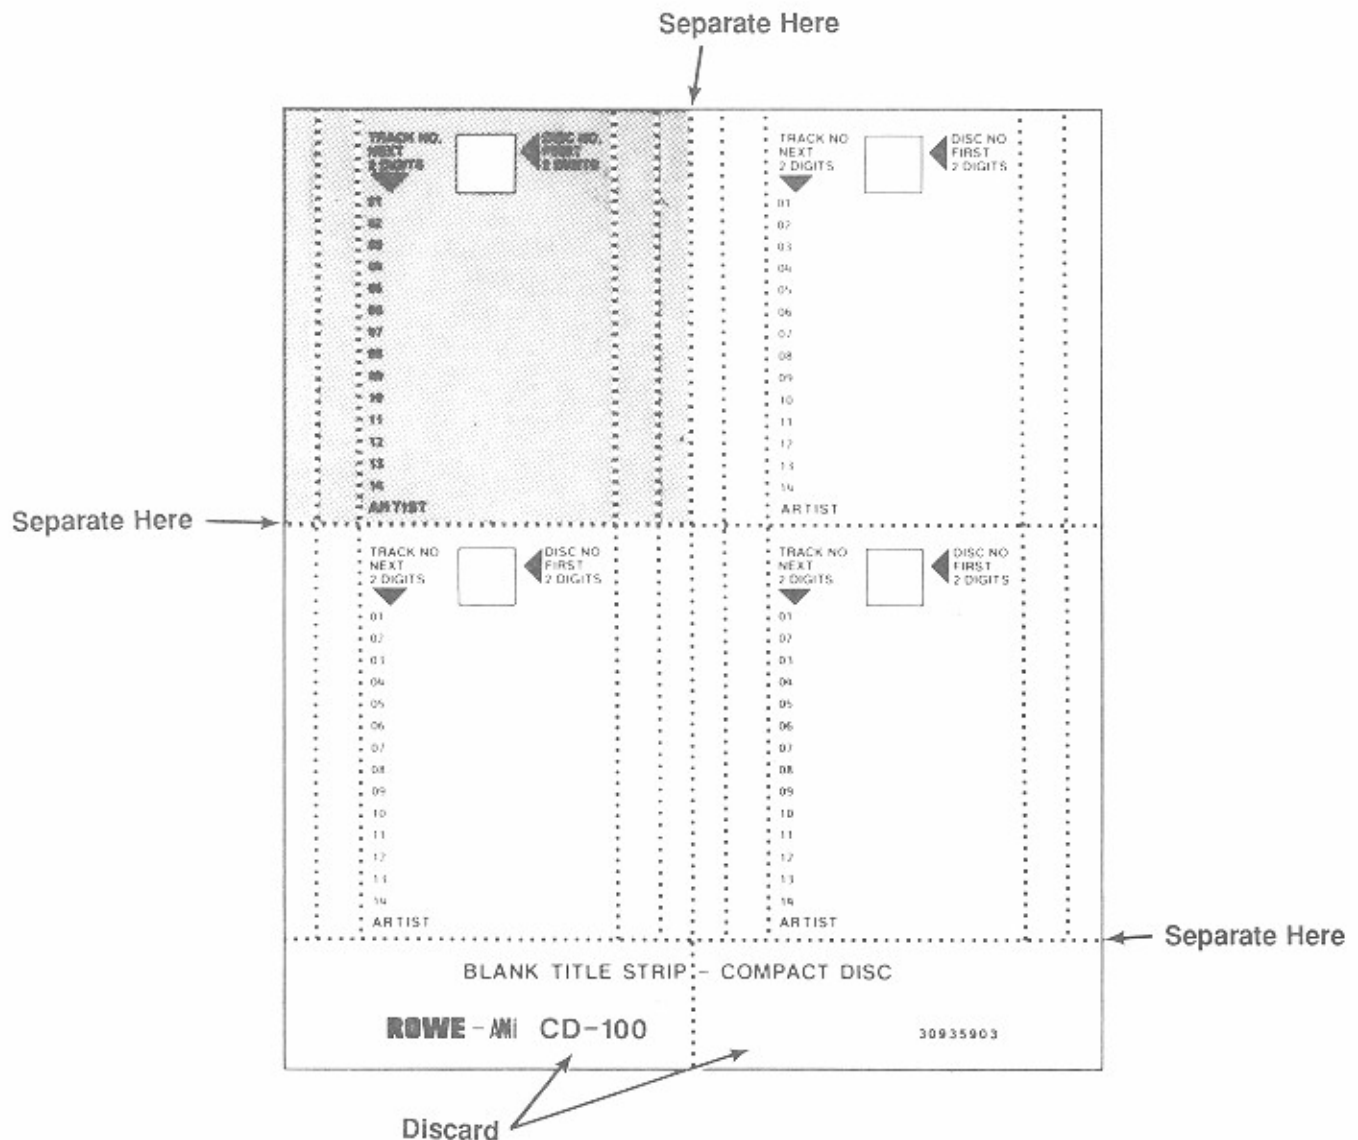

Figure 2-2. Blank Title Sheet
Refer to the sample, *Blank Title Sheet*, in figure 2-2. Refer to figure 2-2 for examples of how to tear the title strips off of the title strip sheets.
1. Tear each title strip from the title sheet so that the two perforated columns appear on the side of the title strip (the shaded portion of the title strip in *figure 2-2* represents a title strip that has been removed from the title sheet).